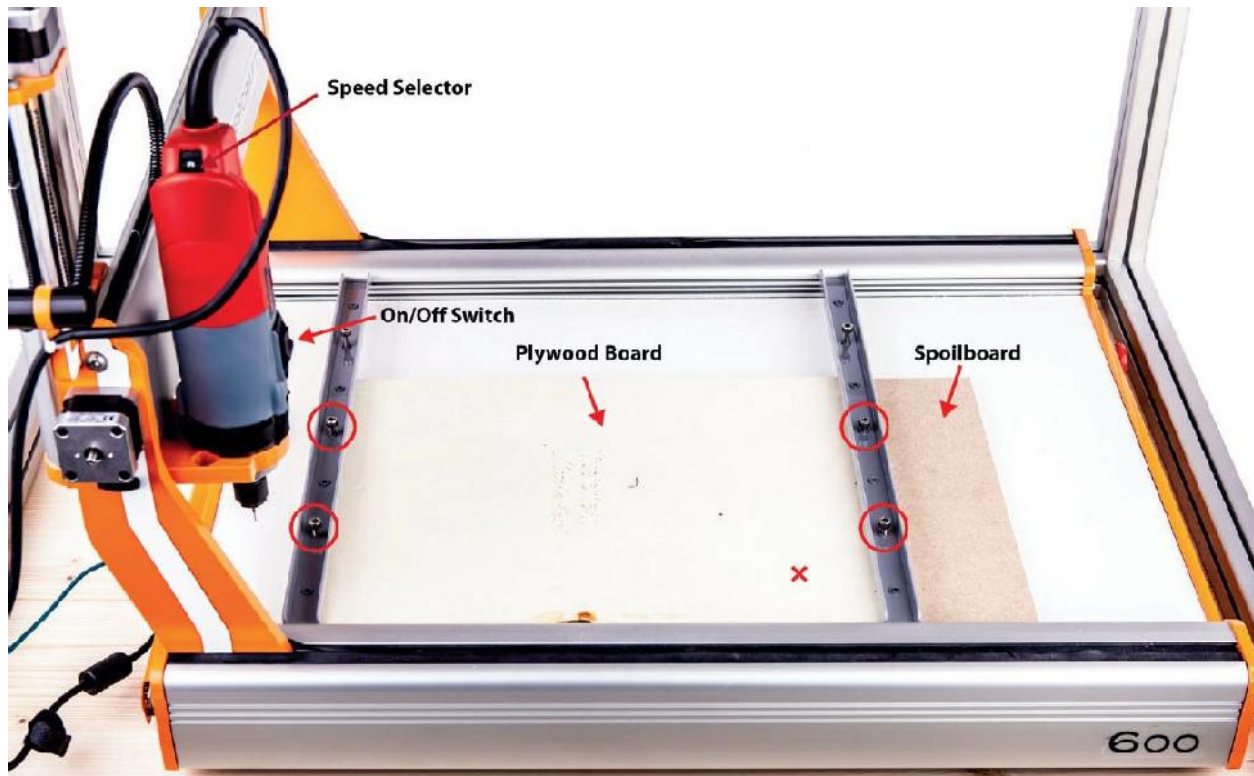

Fig. 2.104 The mounted spindle and the machine table with the spoilboard and workpiece clamped in place
3. Select the *Reference* command in the *Move* menu. The spindle will move to the zero point as shown in figure 2.104.
Our trial workpiece measures about 165×40 mm ($6.5" \times 1.5"$). To cut it out, you need to establish a workpiece zero point, which leaves sufficient room for the cutter to the right and to the rear (viewed from the right in figure 2.104). The zero point is labeled with a red X.